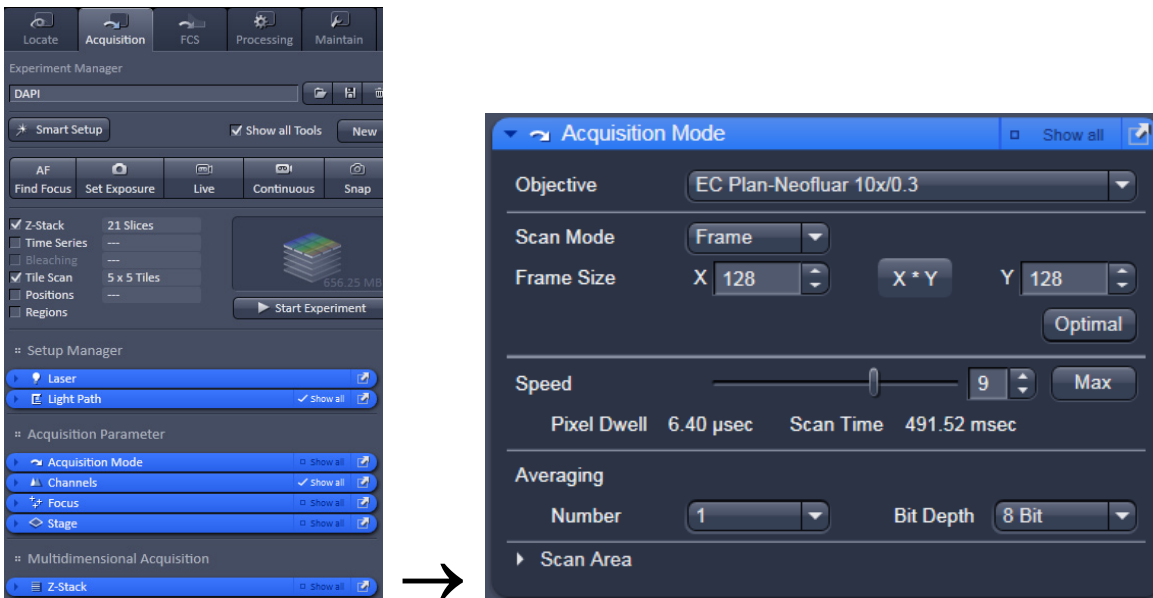

Fig. 19 Acquisition Mode tool
- Select the **Acquisition Mode** tool from the **Left Tool Area** (Fig. 19).
- Use the **Scan Speed** slider in the **Acquisition Mode** tool (Fig. 19) to adjust the scan speed.
- Select the dynamic range 8 or 12 Bit (per pixel) in the **Bit Depth** pull-down in the **Acquisition Mode** tool (Fig. 19).